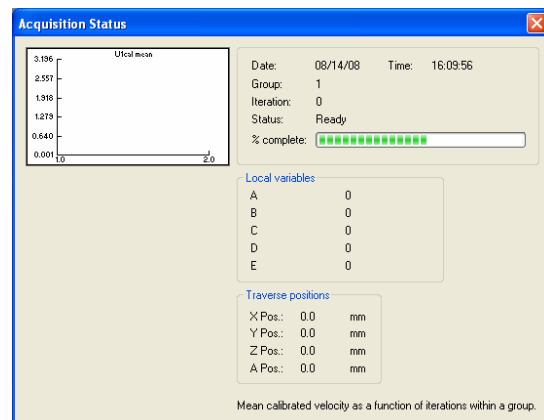

Figure 27: Acquisition status window
3. The “Acquisition Status window”, shown in Figure 27, opens. If the data acquisition event was run prior to the time it was scheduled the Status of the acquisition will be “Ready”. As soon as the acquisition starts the status will change to “Acquiring”.